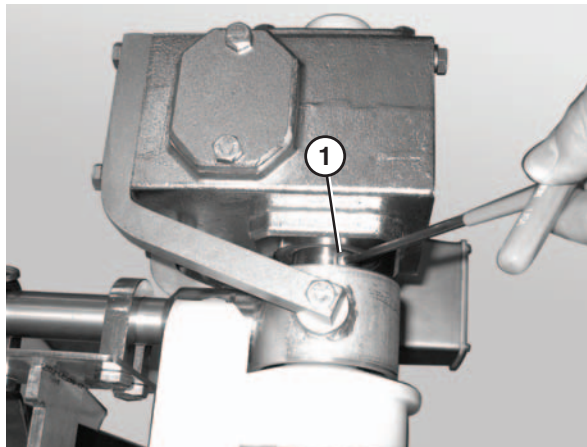

Figure 67
1. Loosen the button head screws (**Figure 67, item 1**) that connect the gearmotor to the drive spindle.